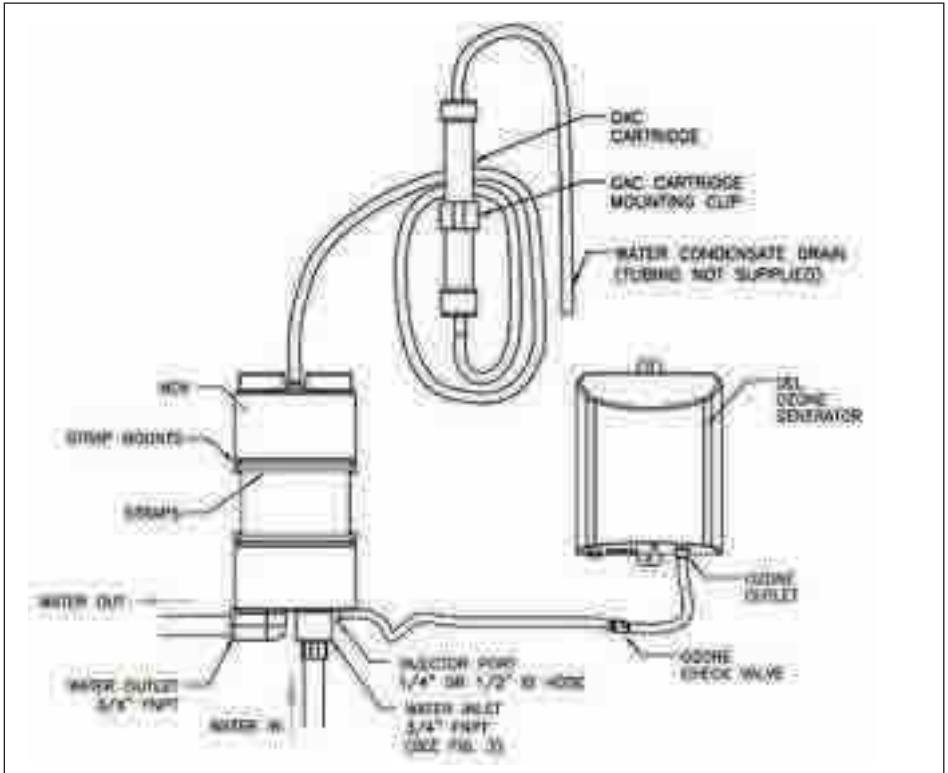

Figure 1. Recirculation Pump Installation
- b. Mount the MDV vertically to a solid surface using (2) Tie Straps, (4) Tie Strap Mounts, and (4) screws as needed.
3. Recirculation Pump Installation (refer to Figure 1):
3. MCD-50 Installation (Figure 1 or 3)